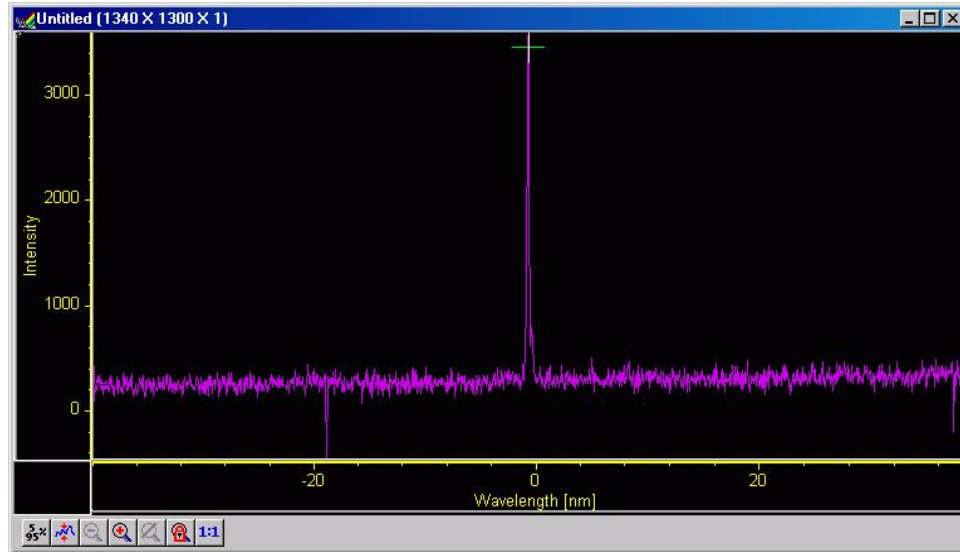

Figure 68. Offset Spectrum for Zero-order Measurement
5. Figure 68 illustrates a typical Offset data acquisition. The reference peak should appear near the center of the display and the cursor should be near or on the highest point of the peak. If the peak is saturated, cancel, lower the exposure time, and repeat the operation. The display X-axis should be calibrated (any units other than pixels). *If the X-axis is calibrated in pixels, select the desired units as the calibration units on the Usage dialog (opened by selecting Usage from the Calibration menu).*